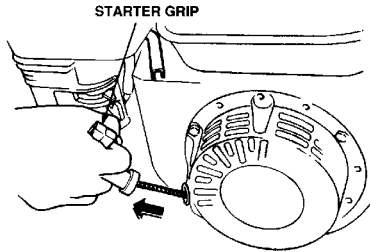

Figure 12. Starter Grip
1. Grasp the starter grip (Figure 12) and slowly pull it out. The resistance becomes the hardest at a certain position, corresponding to the compression point. Pull the starter grip briskly and smoothly for starting.